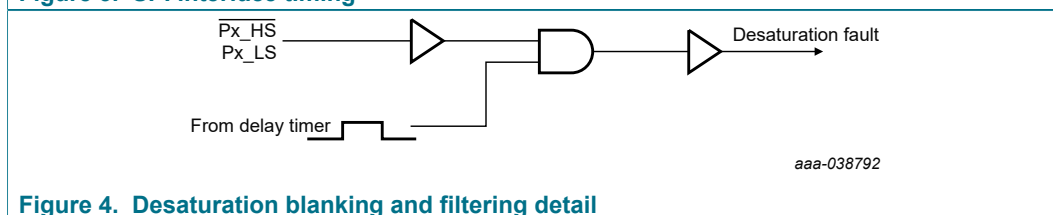

Figure 4. Desaturation blanking and filtering detail
- [16] Desaturation is measured as the voltage drop below V_{SUP}, thus the threshold is compared to the drain-source voltage of the external high-side FET. See Figure 4.